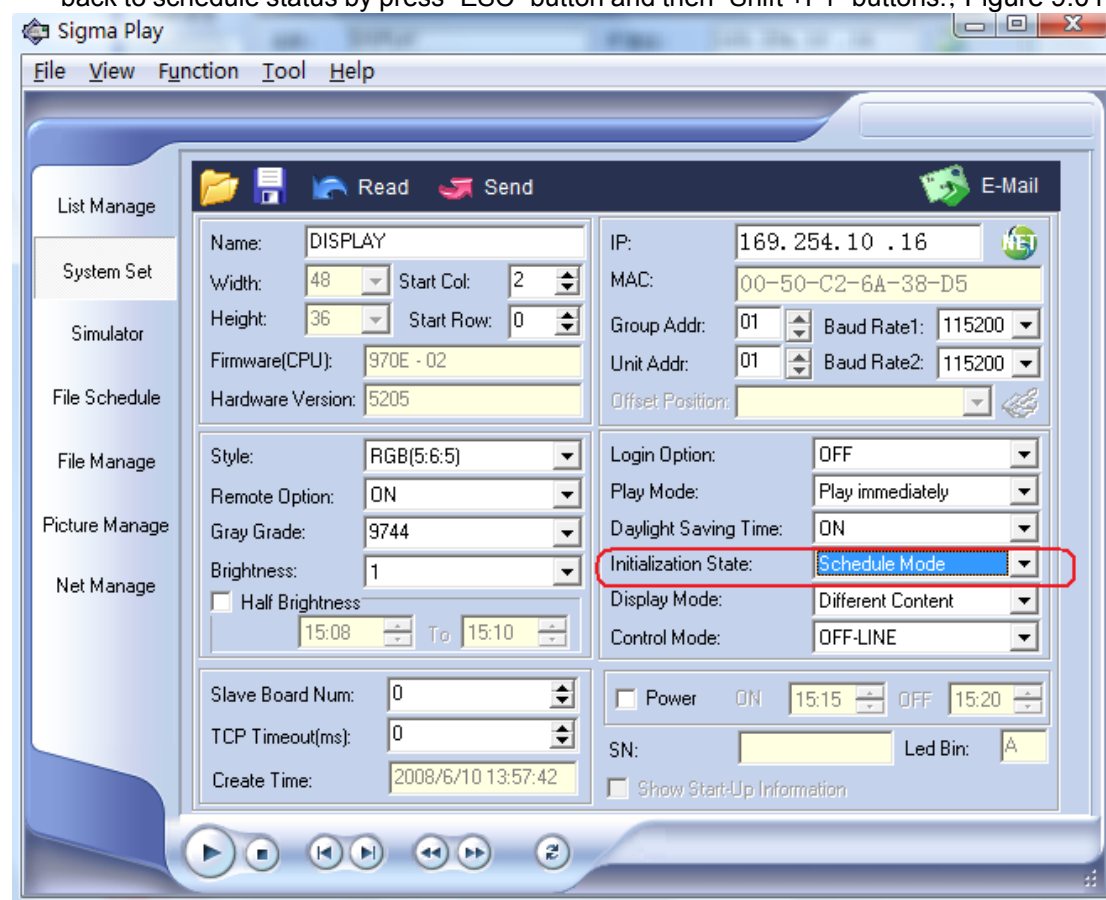

Figure 9.01
1. When you want to use Sigma software to send a file to the sign, please make sure the sign is in Schedule status (display status). If the sign is in remote control status (you can see remote control list), please press “program” key in remote to switch to Schedule status from remote control status; if the sign is in shut down status, please set the sign back to schedule status by press “ESC” button and then “Shift +F1” buttons.; Figure 9.01